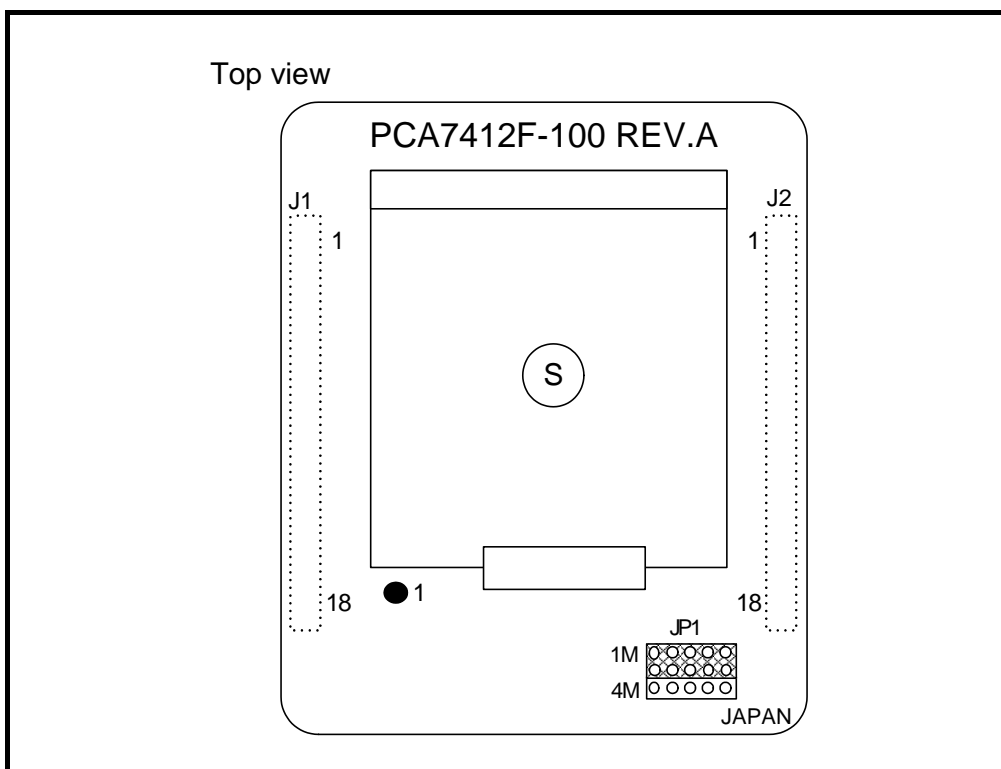

Figure 2.2 Position of the JP1 switch
The position of the JP1 and its default setting are shown in Figure 2.2. For how to set the switch, see Table 2.1.
- An example setting shown in Figure 2.2 is also applied to the PCA7412L-100, PCA7412G-100, and PCA7413F-80.